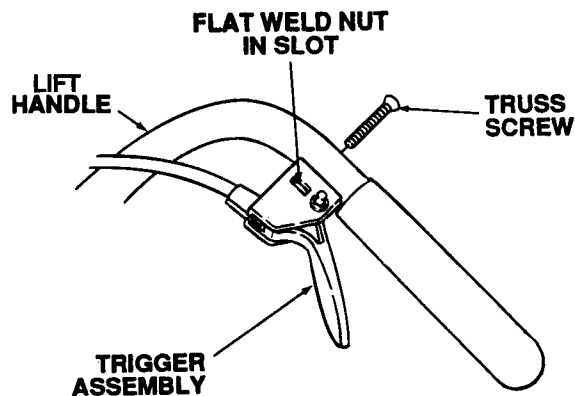

Figure 7-33. Installing Trigger Assembly.
11. While holding the flat weld nut (21) in position, place the trigger assembly against the lift handle (22) and fasten with the truss screw (20). See Figure 7-33.